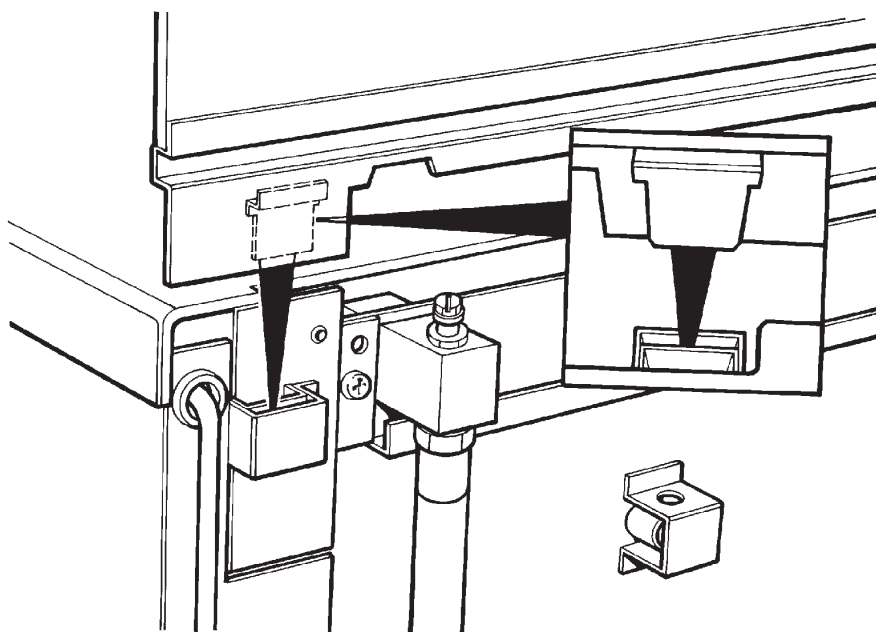

Fig. 9
1. Locate tabs on rear of splashback assembly, into the bracket on the upper rear of the cooker. (See Fig. 9).